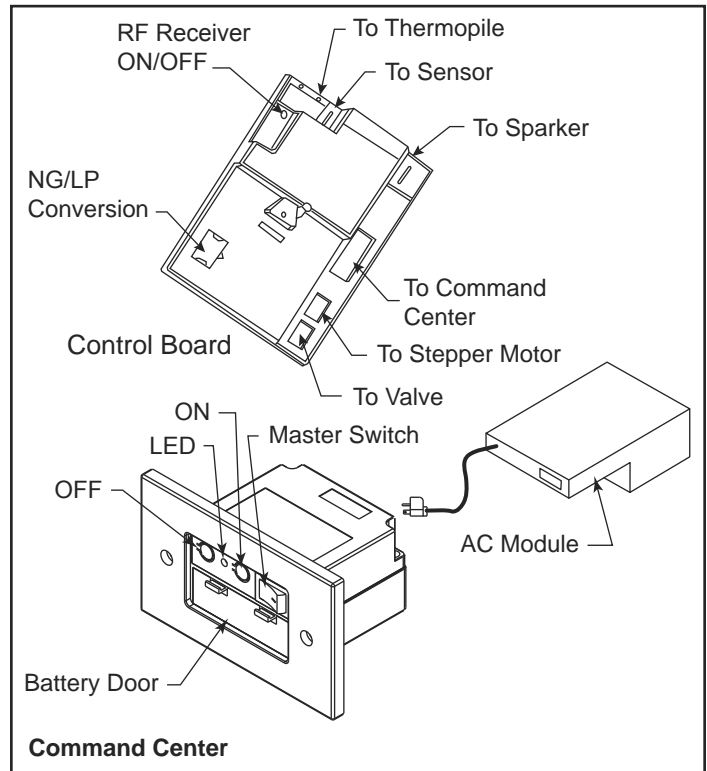

Figure 5.1 - Signature Command System Components
A. Features - Command Center (Figure 5.1)